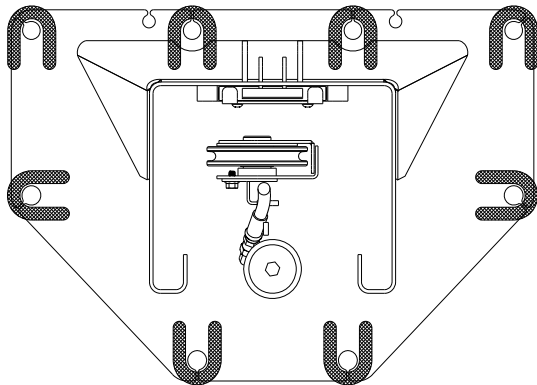

Fig. 7 – Column Shimming
- 22) Repeat steps 17 thru 19 for the two (2) anchors under each carriage.
- 23) Shim both columns to plumb using the shims provided as shown in **Fig. 7**. DO NOT shim more than 1/2" at any given point. Use a level no less than 24" in length to plumb columns.
- 28) Check idler column shimming. Use additional shims (**see Fig. 7**) to remove any gaps that may have been created while installing overhead beam. Tighten anchor bolts and re-check column for plumb. Torque to 150 foot-pounds.